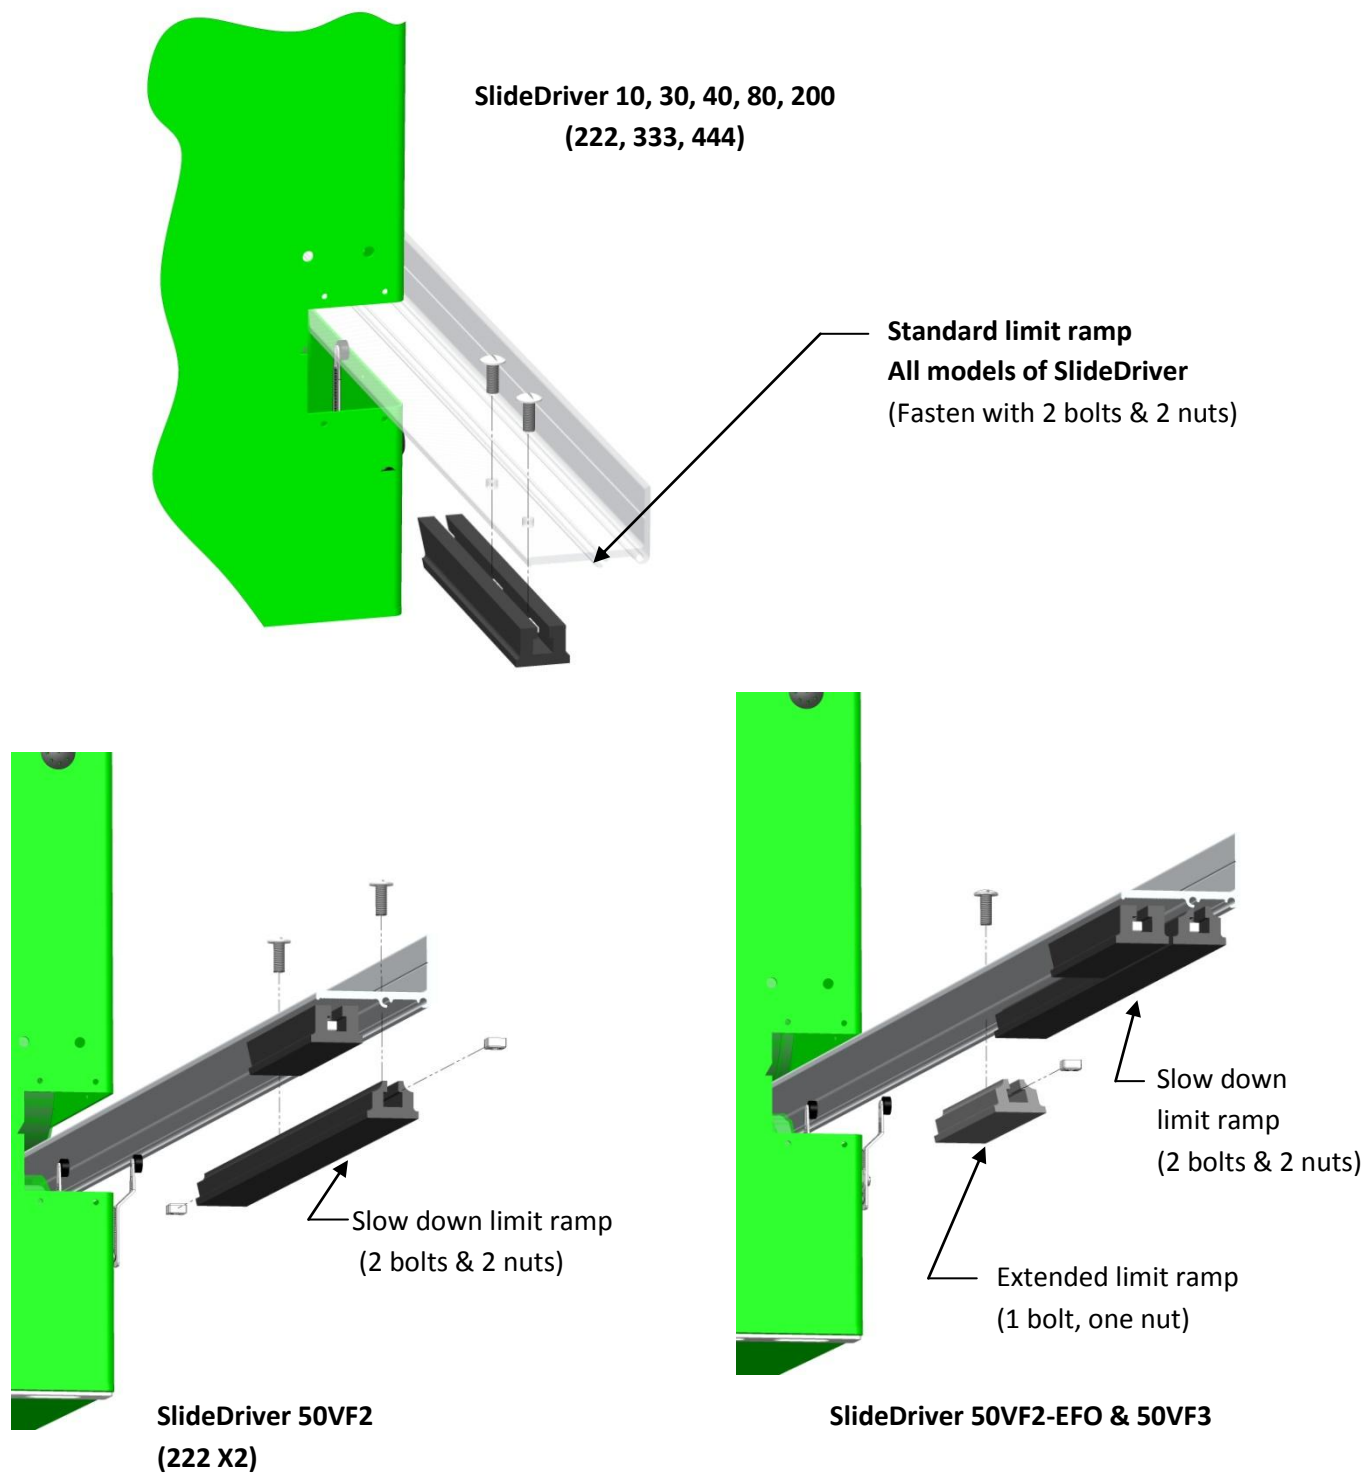

Figure 1-2. SlideDriver Limit Ramp Configurations
2. If you are unfamiliar with installing the limit ramps, refer to Figure 1-2 on the next page and follow the instructions found in this manual.